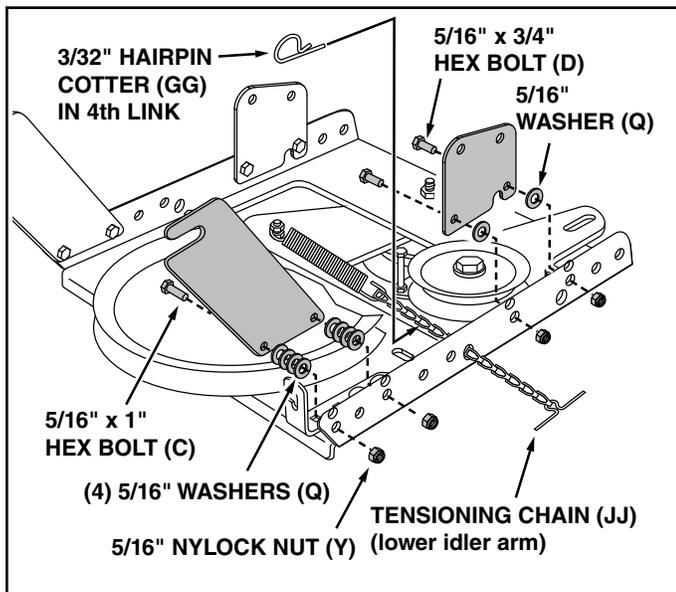

FIGURE 36
STEP 36: (SEE FIGURE 36)
- Attach the two rear pulley frame brackets (10) to the inside of the clutch/idler assembly using two 5/16" x 1" hex bolts (C), eight 5/16" washers (Q), and two 5/16" nylock nuts (Y) for each bracket.
- Attach the two front pulley frame brackets (12) to the inside of the clutch/idler assembly using two 5/16" x 3/4" hex bolts (D), 5/16" washers (Q), and 5/16" nylock nuts (Y) for each bracket. Add extra washers if needed in step 39.
- Insert a tensioning chain (U) through the hole shown and attach the end link to the spring on the lower idler arm.
- Install a 3/32" hairpin cotter (GG) in the 4th link of the chain.